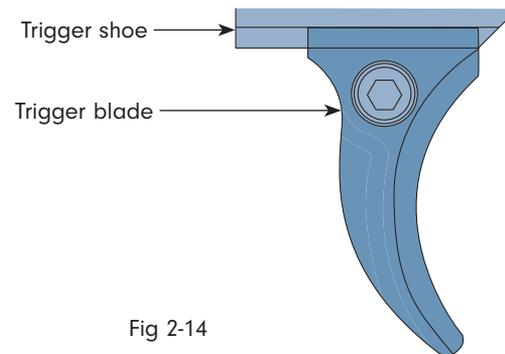

Fig 2-14
- Note: The trigger blade clamp must remain in complete contact with the trigger shoe (see Fig 2-13 and Fig 2-14).